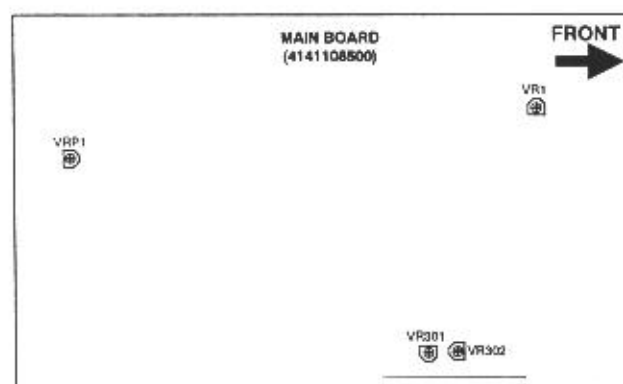

Figure 4-1 Location of Mainboard
1. Check that the 75V voltage is $75V \pm 0.1$. Adjust VR1 (see Figure 4-1 for location) to correct if necessary.
2. Input a cross hatch pattern in 60.024kHz 1024x768 mode and adjust VRP1 on the mainboard (see Figure 4-1 for approximate location) so the high voltage is in the range $26kv \pm 0.3kv$.